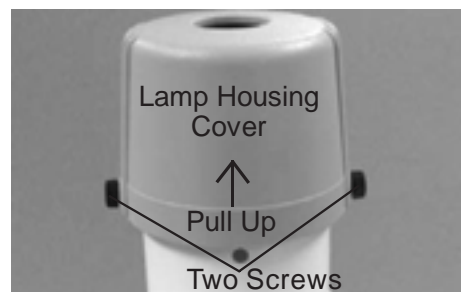

Figure 29 Remove Cover
2. Remove the Lamp Housing Cover by loosening the Two Screws securing the Cover and lifting it straight off. Refer to Figure 29.
8. Install the Lamp Housing Cover and secure it by tightening the Two Screws. Refer to Figure 29.